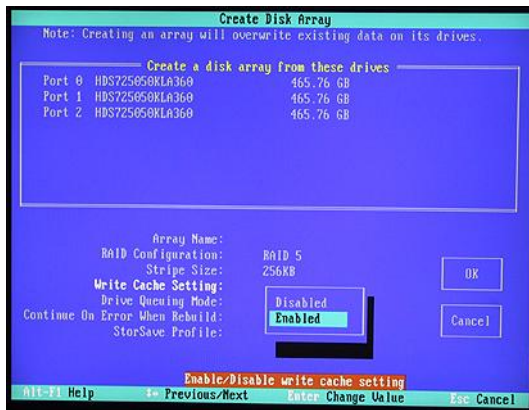

Figure 3-51
- 9) Use the up/down arrow keys to highlight the **Write Cache Setting** item, and then press the <Enter> key to access an associated pop-up dialog (Figure 3-51).